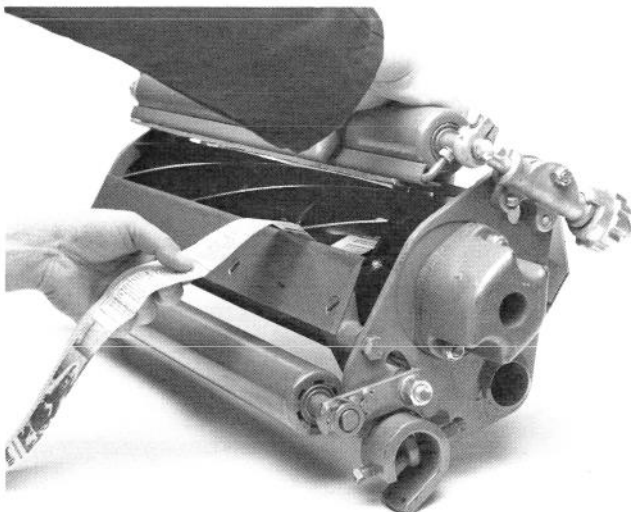

Figure 3
- After the adjustment is accomplished, check to see if reel can pinch paper when inserted from the front and cut paper when inserted at a right angle (Fig. 3). It should be possible to cut paper with minimum contact between the bedknife and the reel blades. Should excessive reel drag be evident (more than 7 inch pounds [0.8 N•m]) it will be necessary to either back lap or regrind the cutting unit to achieve the sharp edges needed for precision cutting (see Toro reel sharpening manual, Form No. 80-300PT).